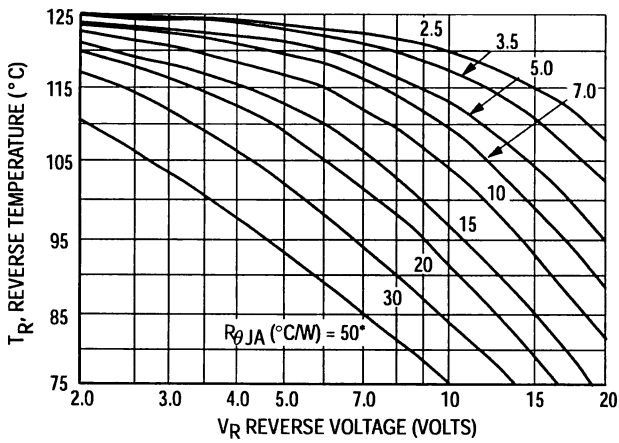

Figure 1. Maximum Reference Temperature – 1N5826
Figures 1, 2, and 3 permit easier use of equation (1) by taking reverse power dissipation and thermal runaway into consideration. The figures solve for a reference temperature as determined by equation (2):
Inspection of equations (2) and (3) reveals that T_R is the ambient temperature at which thermal runaway occurs or where $T_J = 125^\circ\text{C}$, when forward power is zero. The transition from one boundary condition to the other is evident on the curves of Figures 1, 2, and 3 as a
difference in the rate of change of the slope in the vicinity of 115°C . The data of Figures 1, 2, and 3 is based upon dc conditions. For use in common rectifier circuits, Table 1 indicates suggested factors for an equivalent dc voltage to use for conservative design, i.e.: